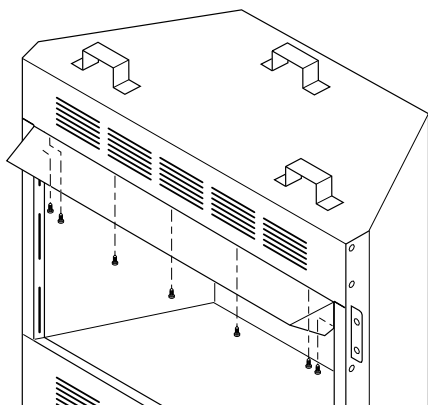

Figure 24 - Screw and Hood Placement for Hood
1. Attach hood to firebox using (7) #10 x 3/8" phillips screws provided (see Figure 24).